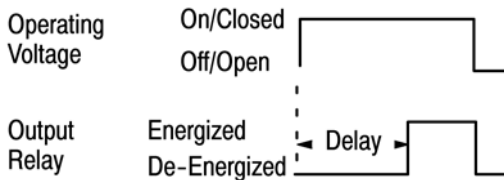

Figure 3
6.1. Type 1: On-Delay (Figure 3)